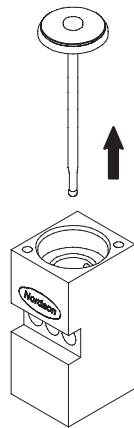

Figure 9-10 Removing the needle-and-piston assembly
5. See Figure 9-10. Remove the needle-and-piston assembly from the top of the module body.